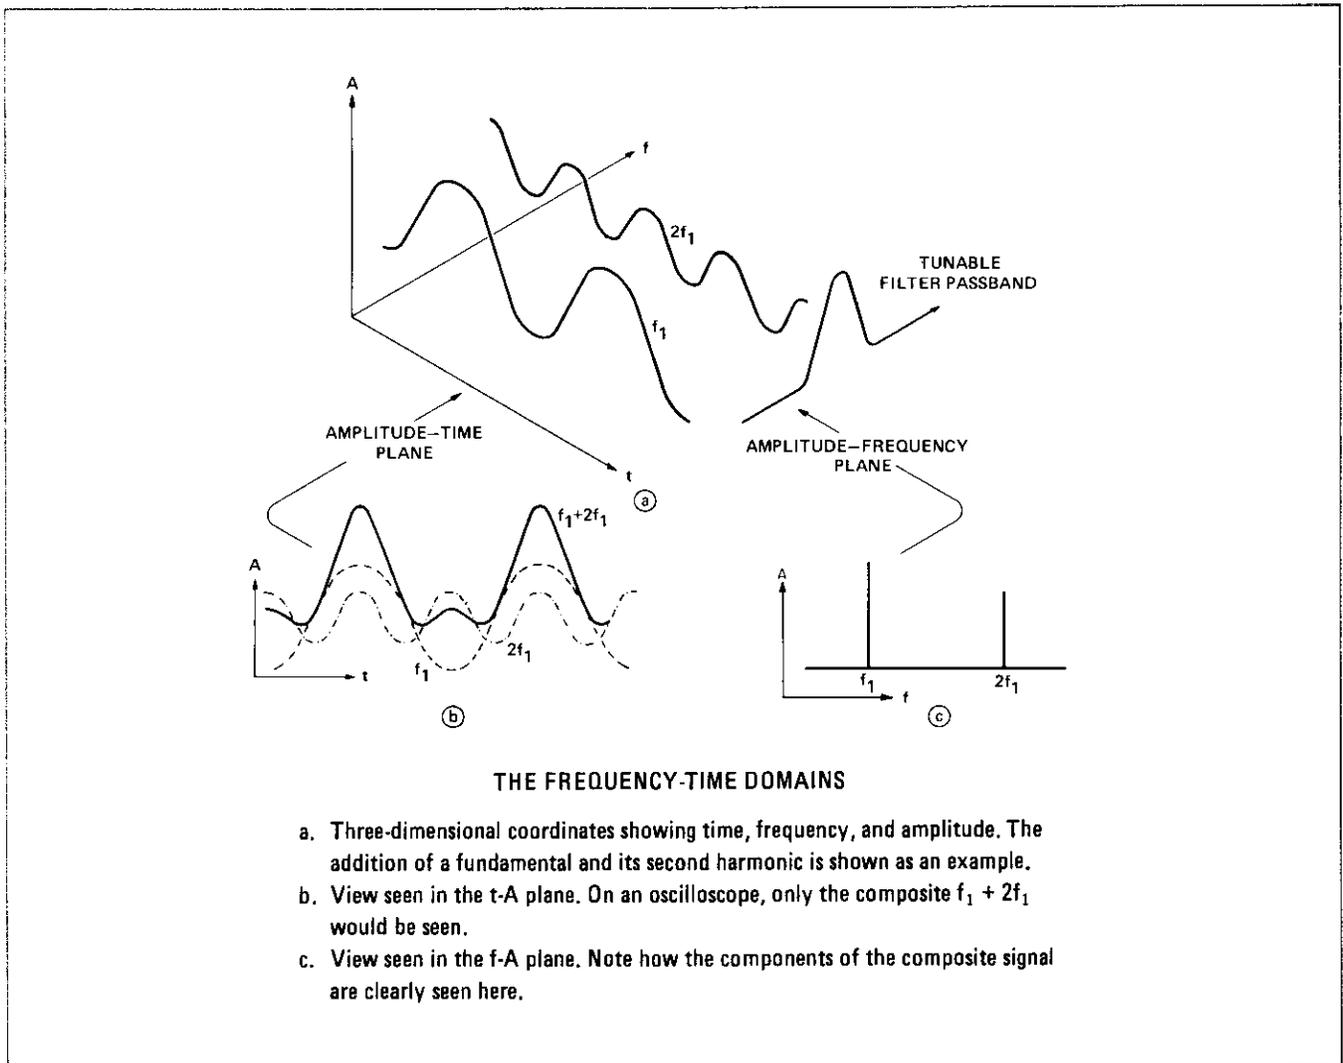

Figure 1. Frequency and Time Domain
The spectrum analyzer is a receiver that displays signals in the frequency domain. The CRT on the analyzer displays signal amplitude (A) on the vertical axis and frequency (f) on the horizontal axis. A method of visualizing how a spectrum analyzer views the frequency domain is to picture a tunable bandpass filter that scans the frequency axis (see Figure 1). At any instant in time, the analyzer views only the signal it is tuned to receive, rejecting all others. In this way, all the individual components